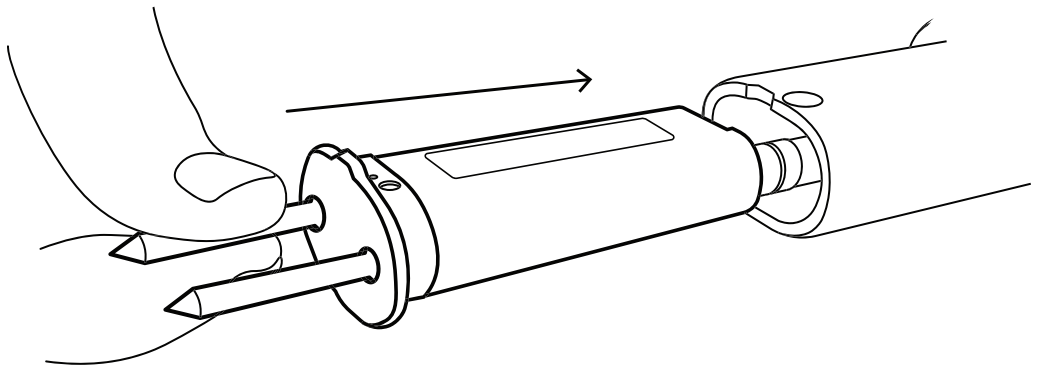

Figure 20 Push new tine module into metal shaft
5. Push the tine module back into the metal shaft (Figure 20).